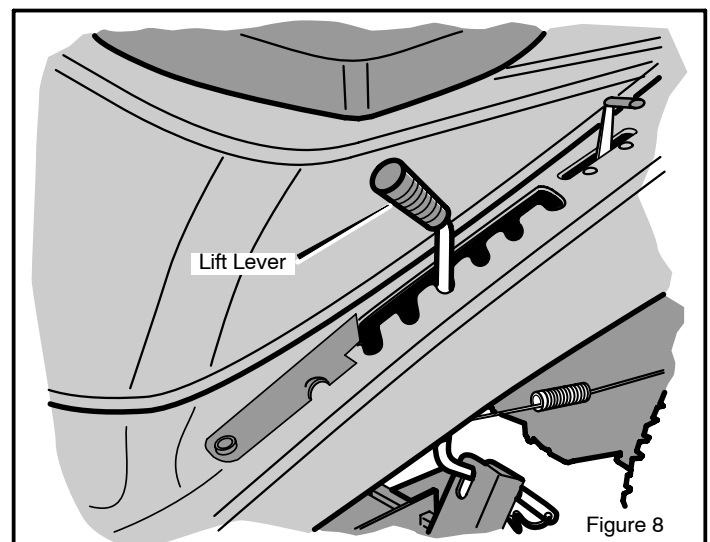

Figure 8
1. Move the **lift lever** forward to lower the mower housing and back to raise the mower housing (Figure 8).